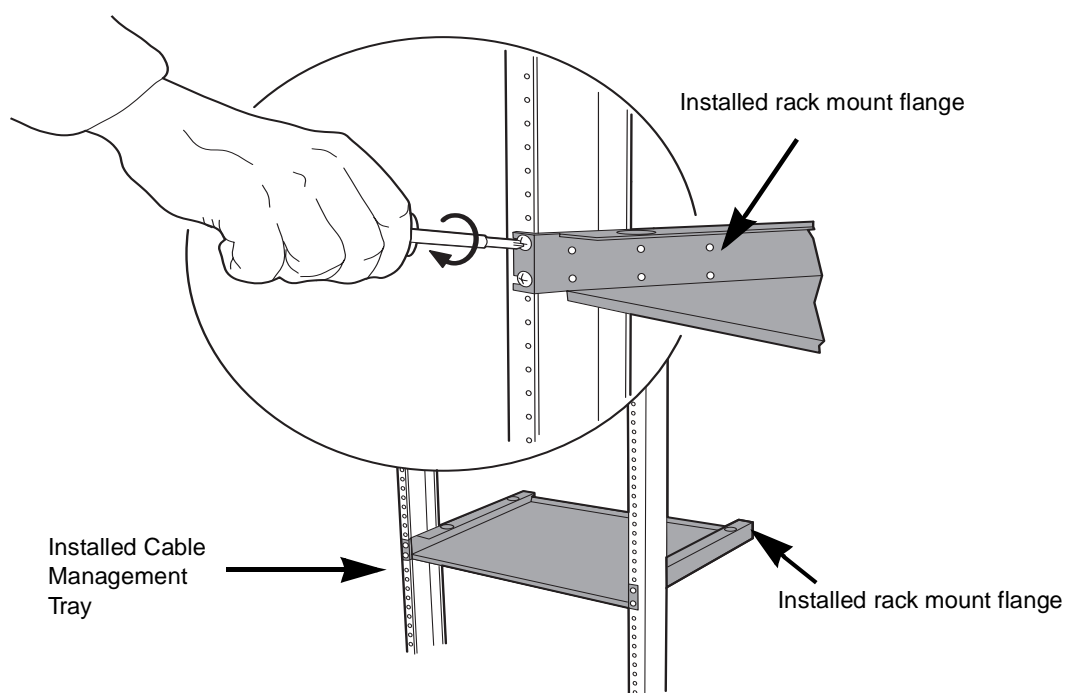

Figure 5. Installing the Cable Management Tray in a Rack
1. Attach the two rack mount flanges (supplied) to the Cable Management Tray using the flathead screws provided (eight, 8-32 x 1/4-inch screws, four per side). Install the screws using a Phillips-head screwdriver. Installed Cable Management Tray rack mount flanges are shown in Figure 5.
Figure 5 shows the Cable Management Tray in the rack.
3. Match the uppermost open slot on each rack mount flange with the corresponding hole on the rack (see Figure 5). *Hold the switch in place until you complete step 4.* The remaining three open slots on each rack mount flange automatically line up when each uppermost open slot is matched to a hole on the rack.
- a. Install one screw in the uppermost open slot on *each* rack mount flange (see Figure 5). Install two screws per rack mount flange before you allow the weight of the switch to rest (unaided) on the rack. Tighten all screws completely. *A fully installed screw is flush with the surface of each rack mount flange.*